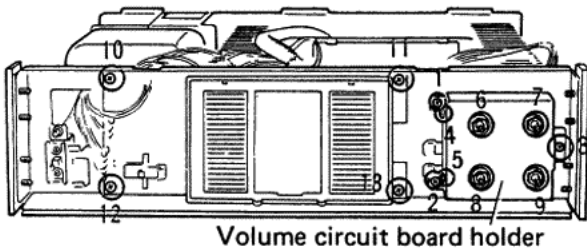

Fig. 4
- Remove screws ① through ③ in Fig. 4 and remove the volume circuit board holder.
- Remove screws ④ and ⑤ and hexagonal nut ⑥ through ⑨ in Fig. 4, the VR circuit board may be removed.
- Remove screws ⑩ through ⑬ in Fig. 4 and remove the meter circuit board, and then take off three illumination lamps of the meter circuit board.